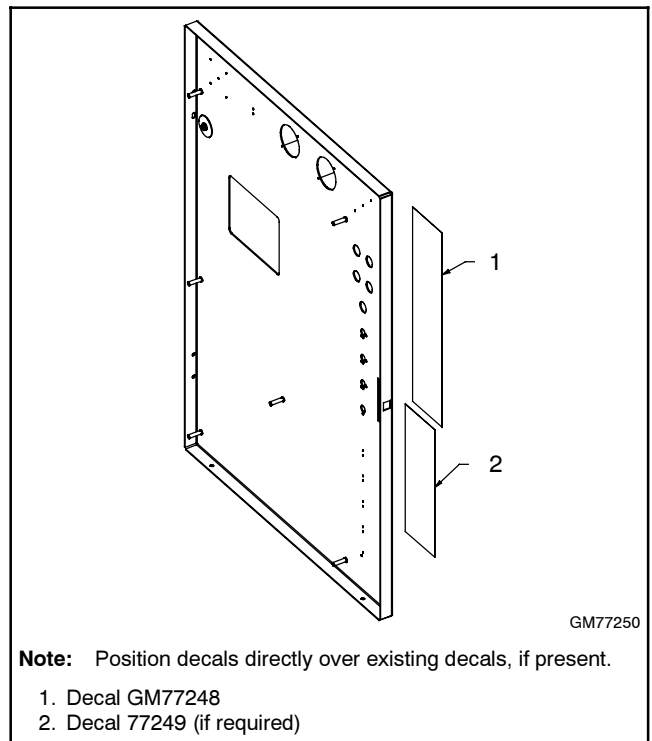

Figure 15 Decal Installation
17. With the surfaces clean and dry, affix conversion kit decals GM77248 and GM77249 over the old decals on the outside of the enclosure door, if present. See Figure 15.